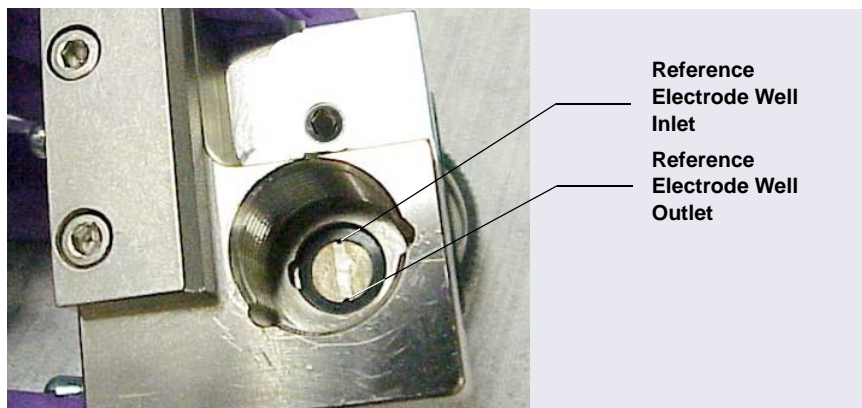

Figure B-10. Reference Electrode Well with Reference Electrode Gasket for Capillary IC Installed
4. Verify that the gasket is centered in the bottom of the well and that it does not block the inlet or outlet of the well. The inlet and outlet are small round openings in the bottom of the well (see Figure B-10).